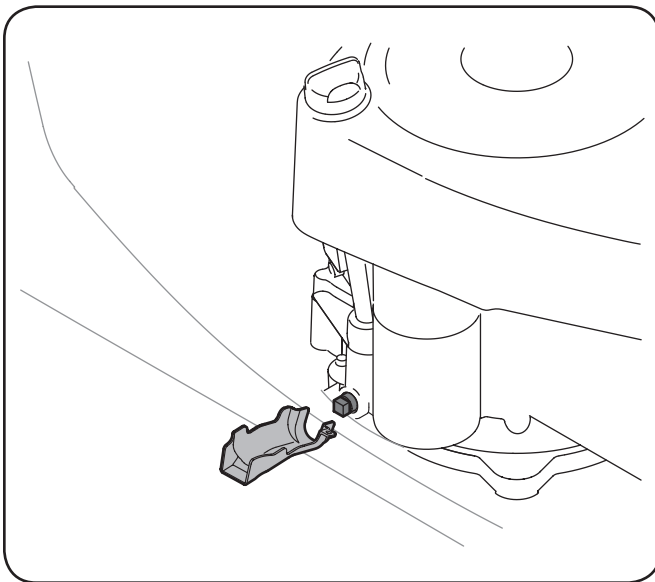

Figure 6-1
4. Snap the small end of oil drain sleeve onto the space provide around the oil drain plug. See Fig. 6-1.